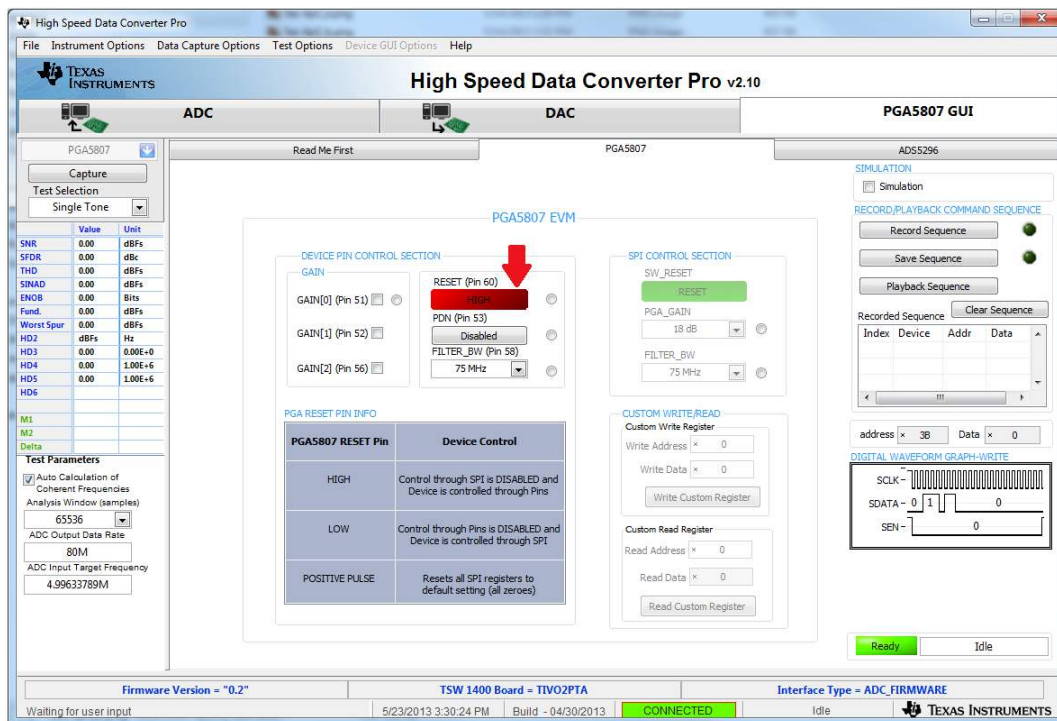

Figure 48. PGA5807 GUI Setup for PGA5807A + ADS5296A Gain Test 3
- The same gain test can be performed using the device pins to set the gain instead of the SPI. At the *PGA5807* tab, change the state of the **RESET (Pin 60)** control to *HIGH*. This will disable the *SPI CONTROL SECTION* and enable the *DEVICE PIN CONTROL SECTION* as shown in Figure 48.